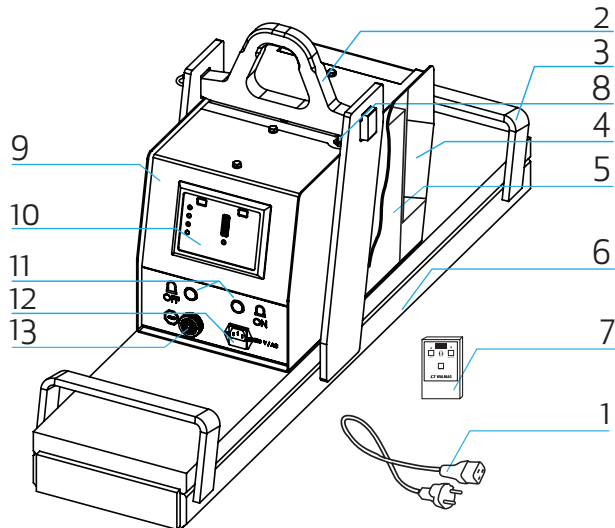

Figure 1– Main parts of lifting magnets
The safety switch (pos. 8, Figure 1) is located under the lifting lug and ensures operator safety. The safety switch prevents magnet deactivation after the lifting lug is lifted.
The warning horn (pos. 13, Figure 1) is located on the front cover on the left, under the buttons, and has the following functions: